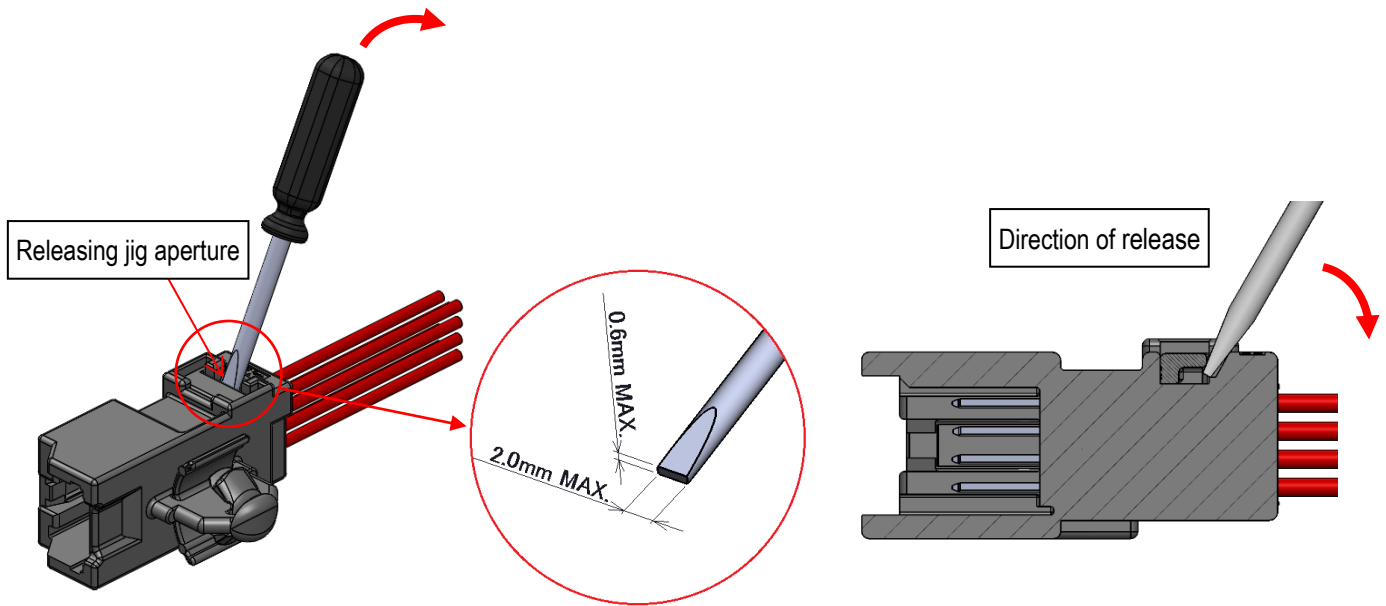

Fig.37 How to release the male retainer
- ① Insert a screwdriver(width :2.5mm MAX./thickness : 0.6mmMAX.) into the releasing jig aperture in the side surface of the male housing, and push out the male retainer. (see Fig.37).